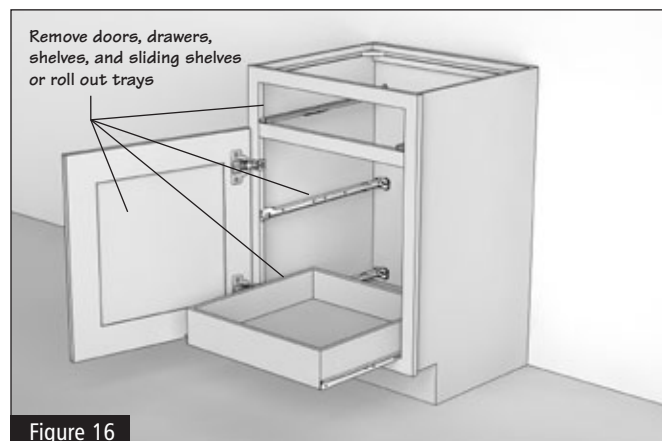

Figure 16
6.1 Remove all shelves, drawers and doors. You might want to mark (or stack them in position) for reinstalling later. This will make the cabinets lighter and easier to handle. (See Appendix for drawer removal technique.) (Figure 16)